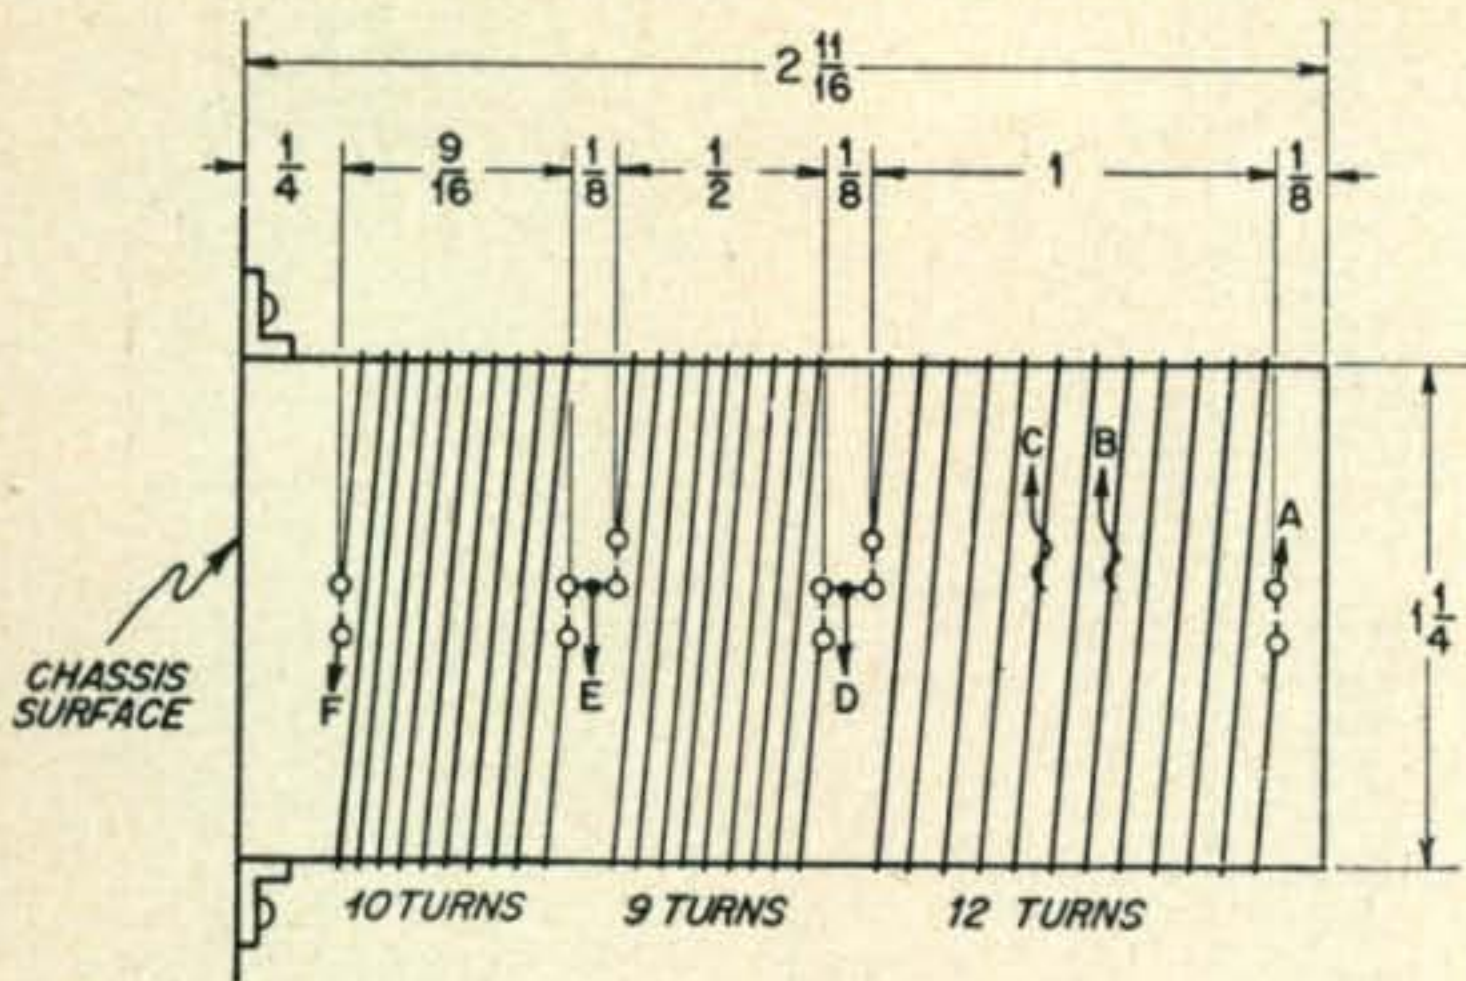

Fig. 2. This sketch shows the construction of L3.
The final tank coil is wound with No. 20 (B&S gauge) on a 1¼" dia. form, 2½" long, as shown in Fig. 2. Any 1¼" O.D. tube of polystyrene or bakelite can be used, but in this case a form was made by cementing two polystyrene coil forms (*Amphenol 24-4P*) together, after removing the pins and flanges, and cutting the resulting tube to length. A thin piece of polystyrene was cemented across the bottom end, through which screws could be passed to secure the coil to the chassis. The design was settled upon after many tests with the Q meter. The unloaded Q for each band with the
- L3—Final tank coil, 31 turns #20 wound on 1 1/4" dia. form in three sections with 1/8" spacing between sections. Bottom section, 10 turns spaced by inter-winding #28 wire; Middle section, 9 turns spaced by inter-winding #28 wire. Top section, 12 turns spaced by inter-winding #16 wire with twisted taps at 5 and 7 turns from top. See text and Fig. 2.